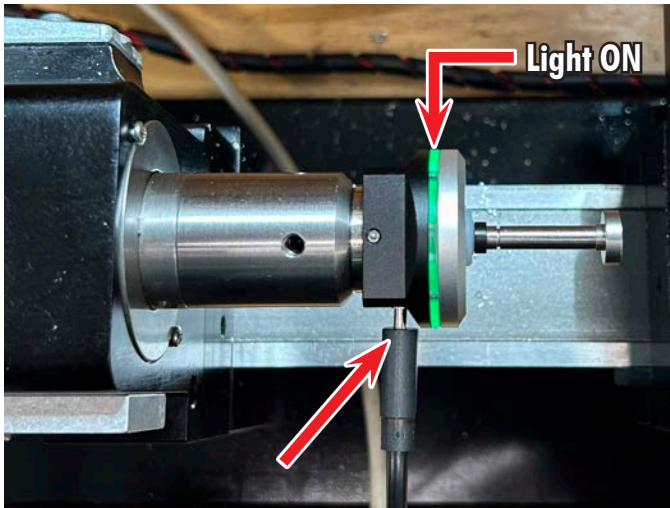

FIGURE 32
B. Plug the touch probe wire into the side of the touch probe. The green light on the touch probe should come on if it is wired correctly (see Figure 32)